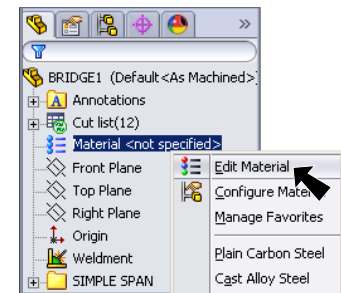

Fig. 33
Step 1. **Right click Material**  in the Feature Manager and click **Edit Material**, **Fig. 33**.